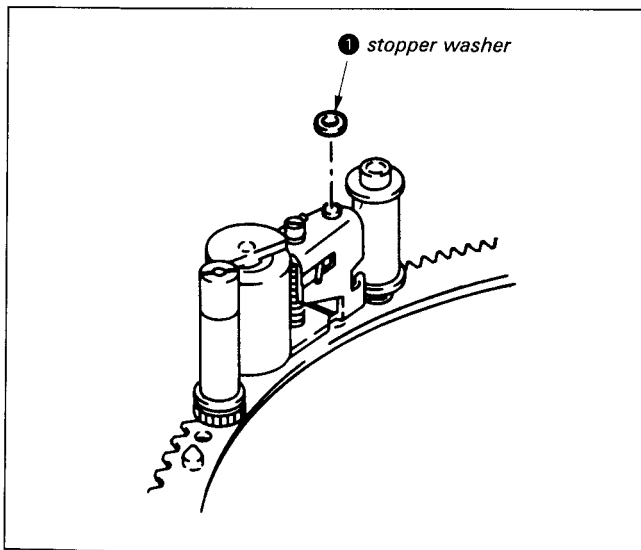

Fig. 7-14.
### 7-3-8. Pinch Roller Assembly (See Fig. 7-14. ~ 25.)
- 2) Remove stopper washer ①. (See Fig. 7-14.)